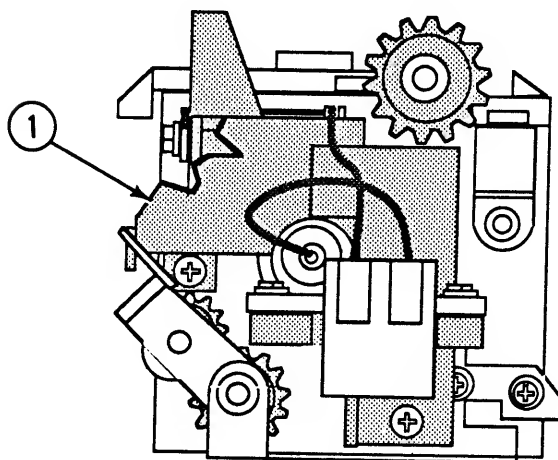

FIGURE 17
3. Place the right terminal mount (Figure 17, #1) in position and replace the three Phillips screws.